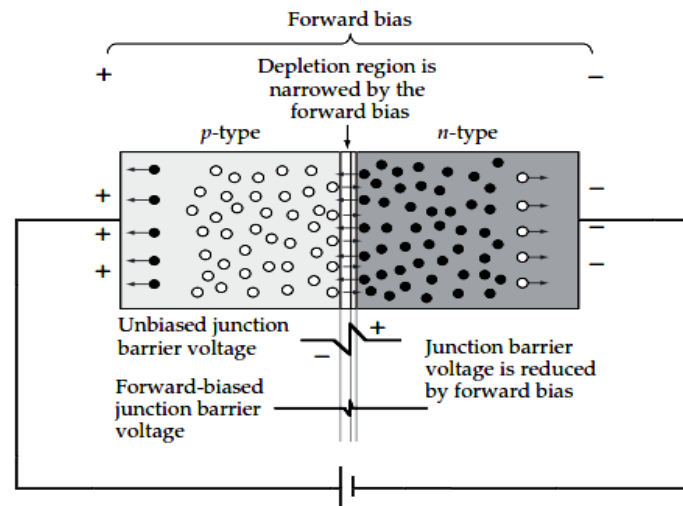

Fig.1.2: pn junction under forward bias
1. When the **positive terminal is connected to p-type** and negative terminal to **n-type**, the electrons from the **n-type** are repelled from the -ve terminal and holes from the **p-type** are repelled from the +ve terminal as shown in Fig.1.2.